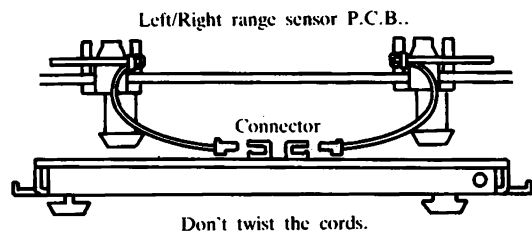

Fig. 64
- (1) Place the S/S switch on the left side and connect the connectors for the Left/Right range sensors with the plugs on the Control SW P.C.B. respectively. (Refer to Fig. 64)